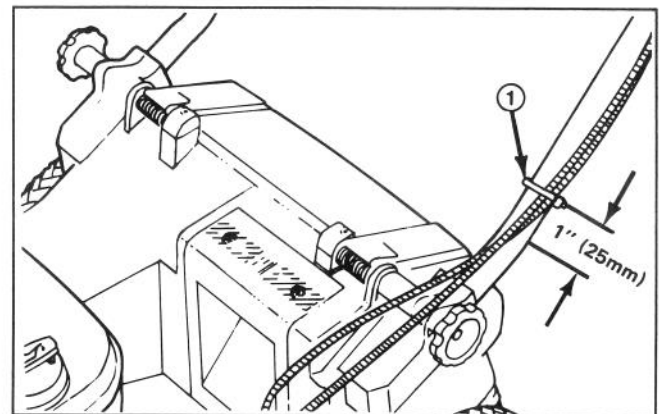

Figure 3
6. Use cable tie to secure cable(s) to lower side of left hand tube (Fig. 3). Cable tie should be positioned 1" from bend in handle. See Figure 3 for correct cable placement.